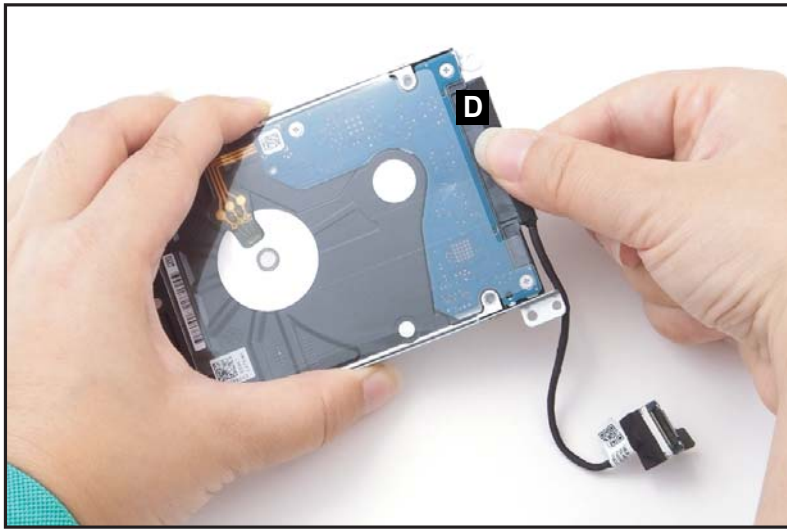

Figure 1-105. Replacing the HDD Module
3. Connect the HDD FFC to the HDD module connector (D) (Figure 1-105).